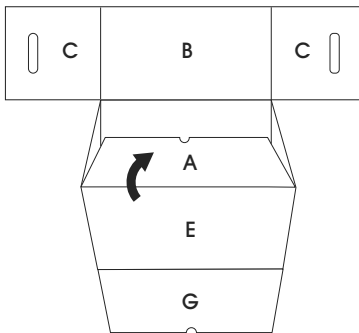

Figure 3
3. Fold interior bottom flap (A) inward. (See Figure 3)